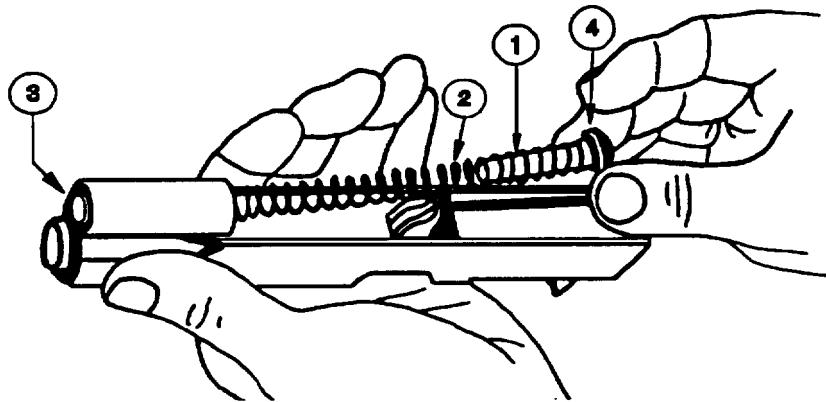

Figure 3-7. Removing The Recoil Spring And Recoil Spring Guide
g. Lift the recoil spring guide (1), Figure 3-7, and twist the recoil spring (2) out of the recoil spring plug (3). Separate the shock-buff (4) from the recoil spring guide (1).
(3) Insert recoil spring (2), Figure 3-7, into slide assembly. Twist recoil spring plug (3) onto the recoil spring.
(5) Install a shok-buff (4), Figure 3-7, onto recoil spring guide (1). Insert recoil spring guide (1) into recoil spring (2).